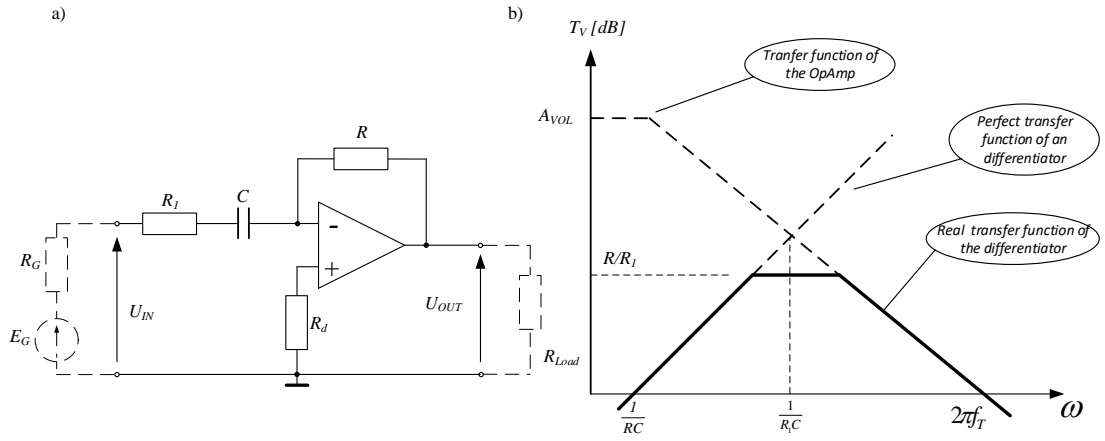
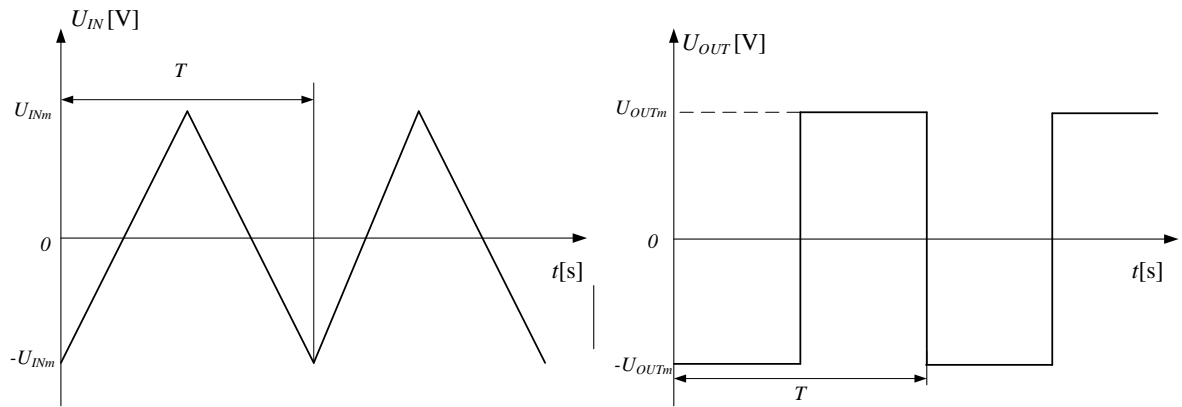

Fig. 5. Modified differentiator; a) schematic diagram, b) transfer function (abs).
Fig. 6. Input and output signals of differentiator.
Given the input of the differentiator from Fig.5, a triangular signal with a peak-to-peak value of $U_{INpp} = 2U_{INm}$ and frequency f , at the output of the system we get a rectangular signal with a peak-to-peak value of $U_{OUTpp} = 2U_{OUTm}$ - Fig.6.
So, according to eq.(16) and Fig.6 for $t=T/2$ we get: